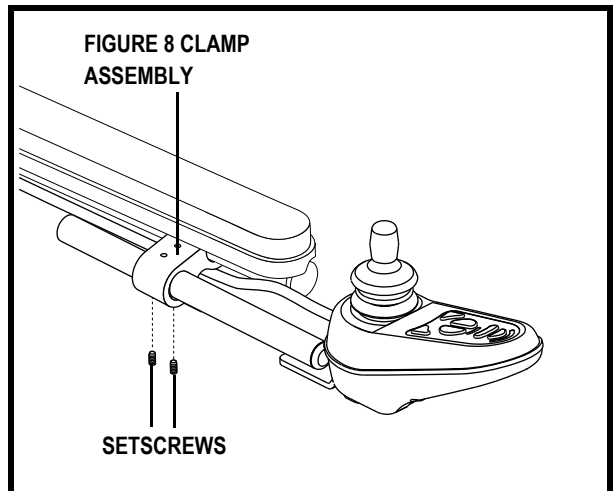

Figure 19. Controller Position (Figure 8 Assembly)
4. Loosen the setscrews on the figure 8 clamp assembly located on the armrest. See figure 19.